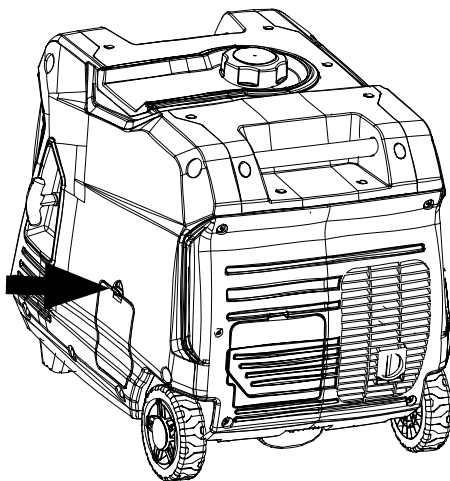

Figure 3: Oil Service Panel
1. Unclip and remove the oil service panel to access the oil fill/drain plug (see Figure 3).